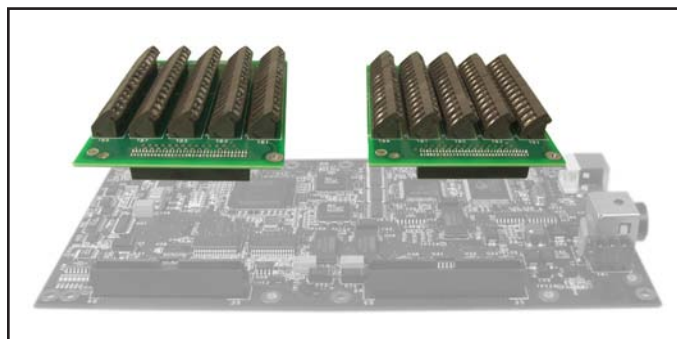

Figure 17. The EP355 screw terminal panel plugs into the J2 or J3 connector of a DT9834 Series module.
- EP355 – This screw terminal panel plugs into connector J2 or J3 of a DT9834 Series module and provides 14-position screw terminal blocks for attaching analog I/O and digital I/O signals. (See Figure 17.)